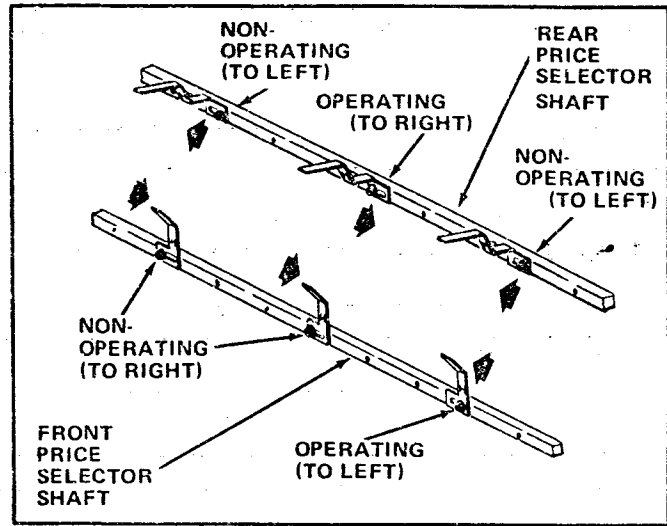

Figure 2. Setting The Price Selector Fingers in an ACMR-130 Equipped Merchandiser
4. a. Set all Price Shaft Arms on the Merchandiser Rear Price Selector Shafts in the operating position. See Figure 2.
4. a. Set the Price Shaft Arms on the Merchandiser Rear Price Selector Shafts, for Columns that are to vend at the low price, in the non-operating position. See Figure 2.
- b. Set the Price Shaft Arms on the Merchandiser Rear Price Selector Shaft, for Columns that are to vend at the high price, in the operating position. See Figure 2.
- c. Set the Price Shaft Arms on the Merchandisers Front Price Selector Shaft, in the non-operating position. See Figure 2.
5. a. Set the Price Shaft Arms on the Merchandiser Rear Price Shafts, for the Columns that are to vend at the low price in the operating position. See Figure 2.
- b. Set the Price Shaft Arms on the Merchandiser Front Price Selector Shafts, for columns that are to vend at the high price, in the operating position. See Figure 2.
4. Rotate the High Price Setting (outer) Disc to align the yellow line on the Disc with the high price at which the Merchandiser is to vend. This price cannot be more than 70¢ above the low price. See Figure 2.
5. a. Set the Price Shaft Arms on the Merchandiser Rear Price Selector Shaft, for the columns that are to vend at the lowest and highest prices, in the no-operating position. See Figure 2.
- b. Set the Price Shaft Arms on the Merchandiser Rear Price Selector Shaft, for the columns that are to vend at the intermediate price, in the operating position. See Figure 2.